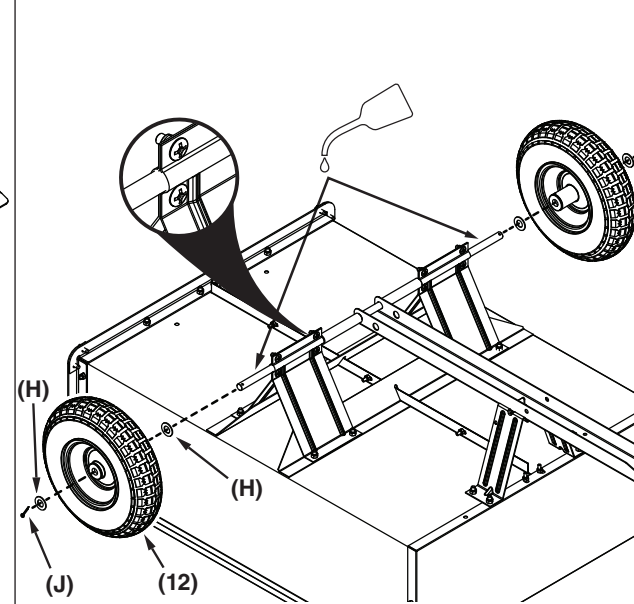

Figure 17
**STEP 17 (SEE FIGURE 17):** Attach the wheels to the axle by installing a large washer (H), a wheel (12), another large washer (H) and a 1/8" cotter pin (J). Repeat this step for the other side.